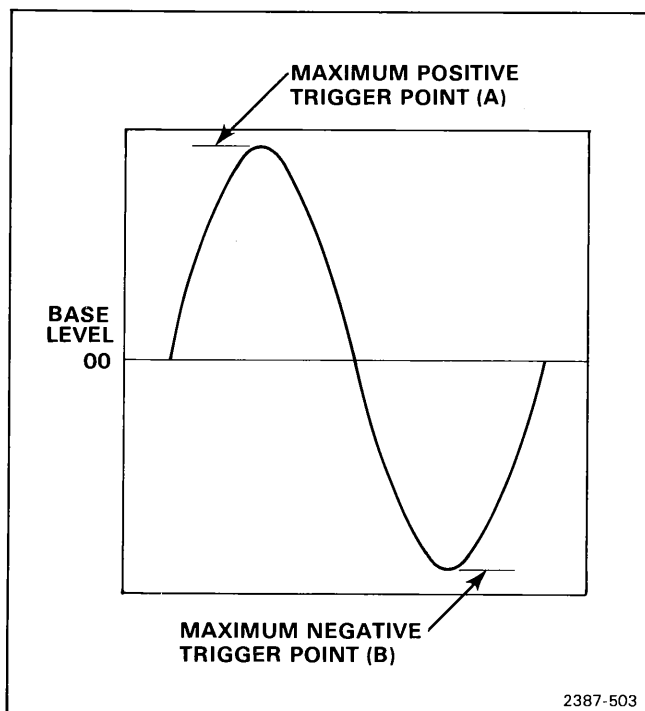

Fig. 5-3. XY display showing maximum positive and negative trigger points.
- d. **CHECK**—the oscilloscope for a triggered XY display (7612D L TRIGGERED light on) that varies, while changing the 7612D TRIGGER LEVEL and pressing the ARM A button, from a base level (00) to a maximum positive level, then back to the base level and on to a maximum negative level. Figure 5-3 shows the desired display.